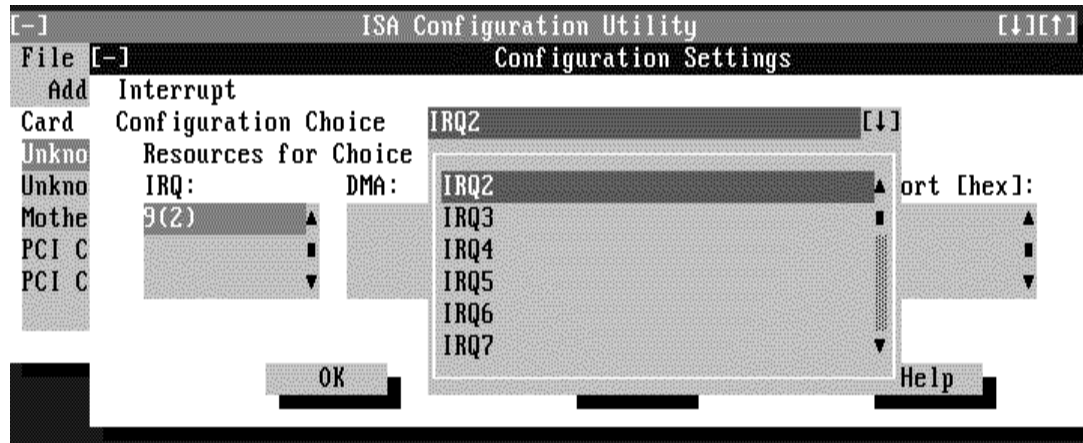

Figure 3-5. Available Settings List Box
**8. To change the resource settings, click the down arrow next to the Configuration Choice box. Then click the new resource setting from the list of available settings (see Figure 3-5).**